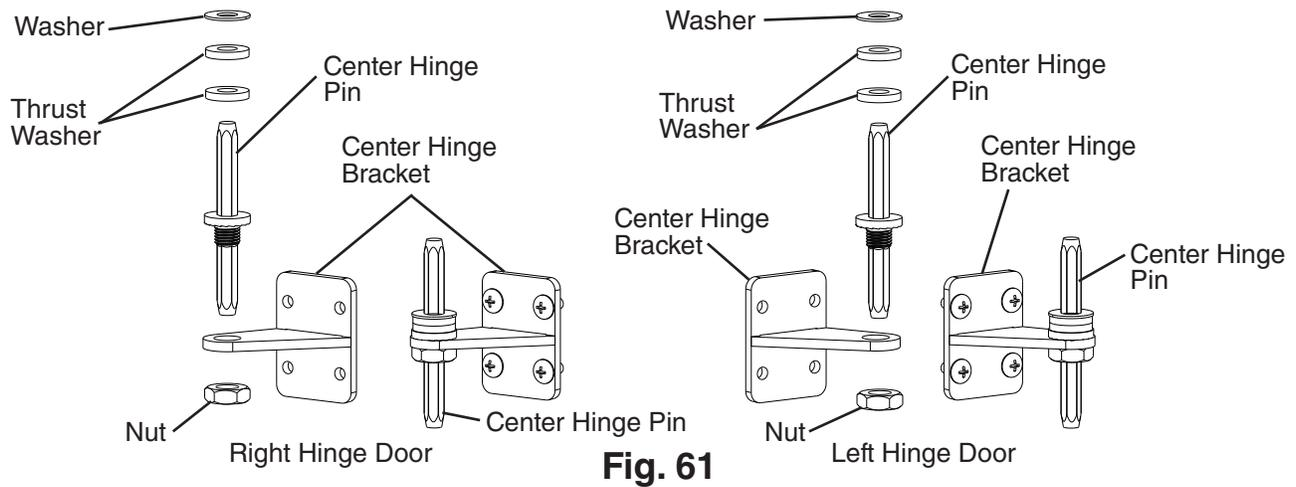

Fig. 61
- 13) Remove the lock nut and tension rod from the center hinge bracket. See Fig. 61 Rotate the center hinge bracket 180 degrees, then replace the tension rod and lock nut on the center hinge bracket.